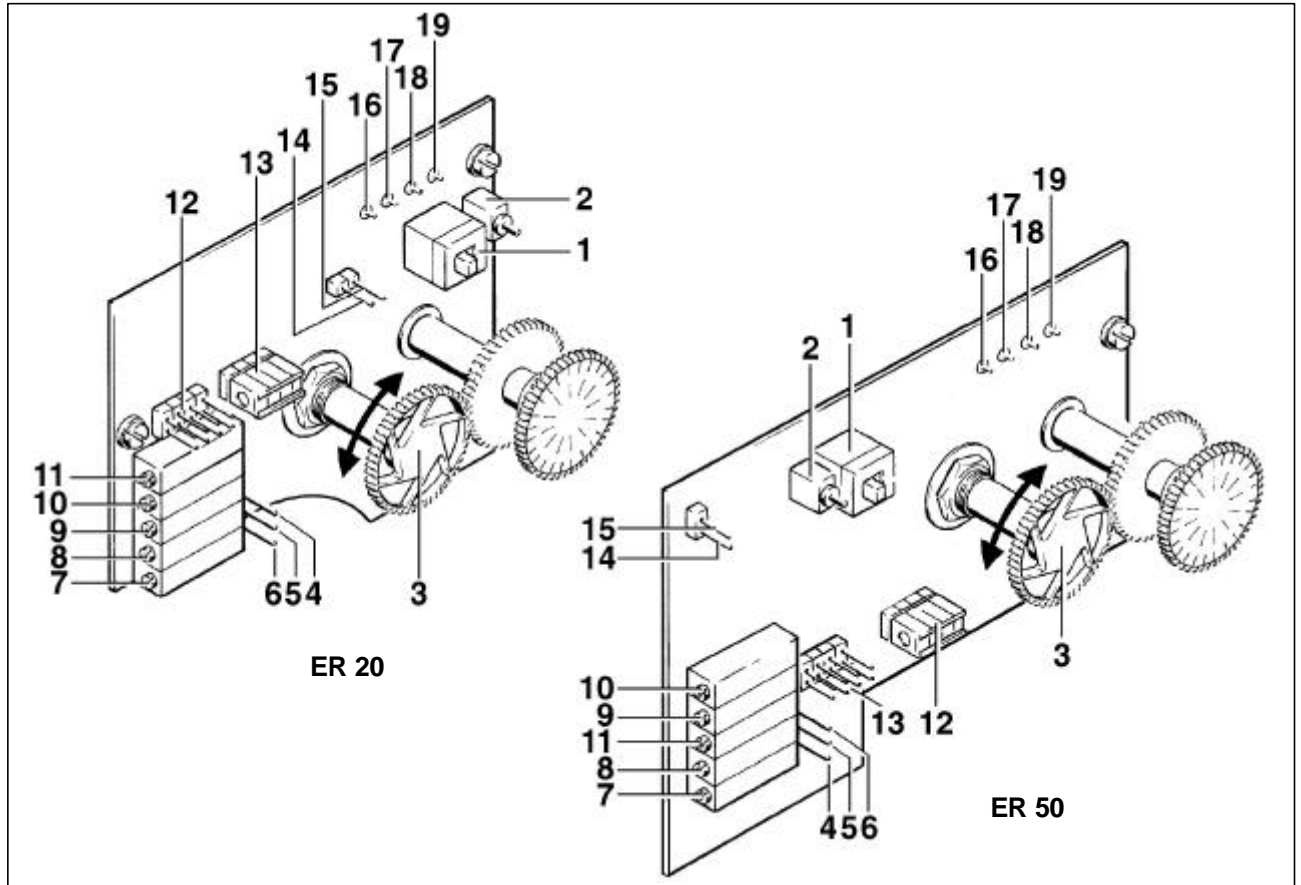

Fig. 9-1 Position controller ER 20/ER 50 - Control circuit board
- Please refer to Figure 9-1.
- The switch S1 (1) must be in the **right-hand** position (manual operation).
- The switch S1 (1) must be in the **left-hand** position (automatic operation).
- Apply earth to the terminal X2-1 (16) and the maximum setpoint (20 mA or 10 V) to terminal X2-2 (17).
- Use a small screwdriver to rotate the potentiometer P2 (11) until the instrument indicates 0 V (0.00X V).
- Slide the switch S1 (item 1, Figure 9-1) into the **right-hand** position (manual operation).
- Press the rocker switch S2 (item 2, Figure 9-1)
- Slide the switch S1 (item 1, Figure 9-1) back into the left-hand position (automatic operation).
- The switch S1 (item 1, Figure 9-1) is in the **left-hand** position (automatic operation).
- The jumper is correctly fitted on the right-hand row of pins J1 or J2 (item 12 or 13, Figure 9-1).